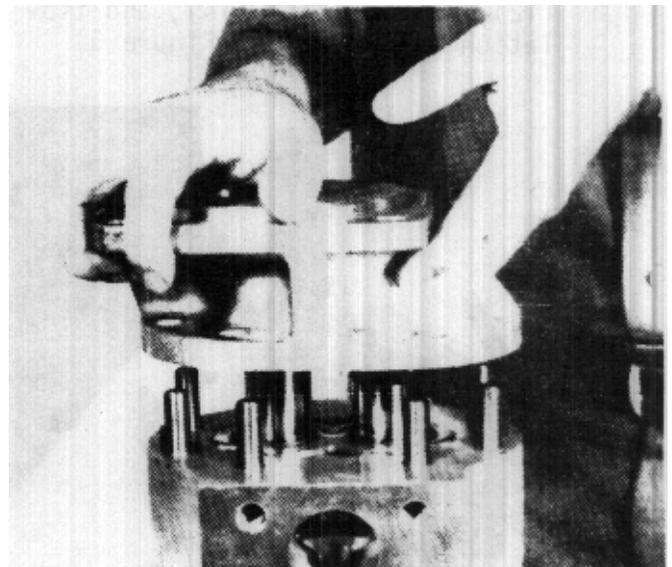

FIGURE 46
4. Remove nuts (23) and washers from studs.
6. Lift the flange (4) off the pump, keeping the flange as straight as possible during removal. If the flange is stuck, use a wood mallet or plastic hammer and tap around the edge to loosen it. (Figure 46)